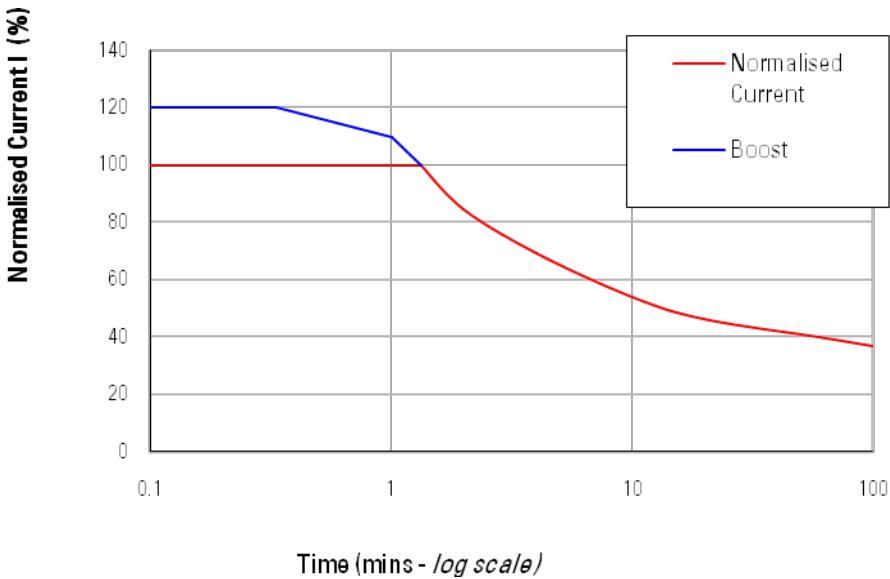

Figure 11 Output current available for various durations of sustained current demand
Output current:	Reduced automatically from peak to continuous rating depending on the time a peak load is applied to the controller (see Figure 11 on page4-3). Reduced automatically if operated outside normal temperature range.
*2 minute rating (lower ratings are possible for longer periods; see example in Figure 11)